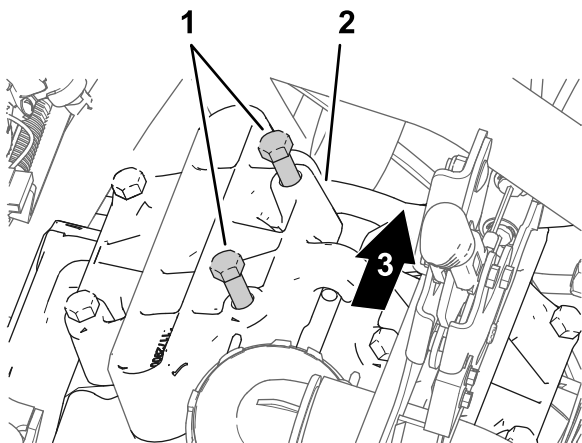

Figure 222
1. At the pump head located at 11 o'clock position, loosen the 2 bolts as shown Figure 222 to provide a 7 to 10 mm (1/4 to 3/8 inch) gap between the head of the bolts and the pump.